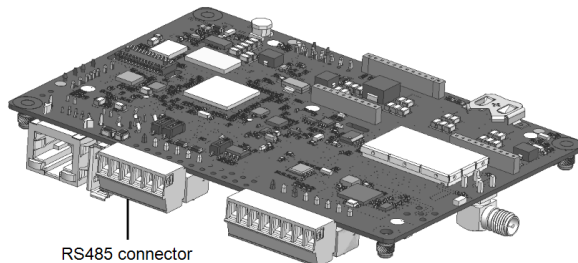

Figure 28: RS485 terminal block on the communication board
3. Pull out the 6-pin RS485 terminal block connector, as shown in *Figure 28*.